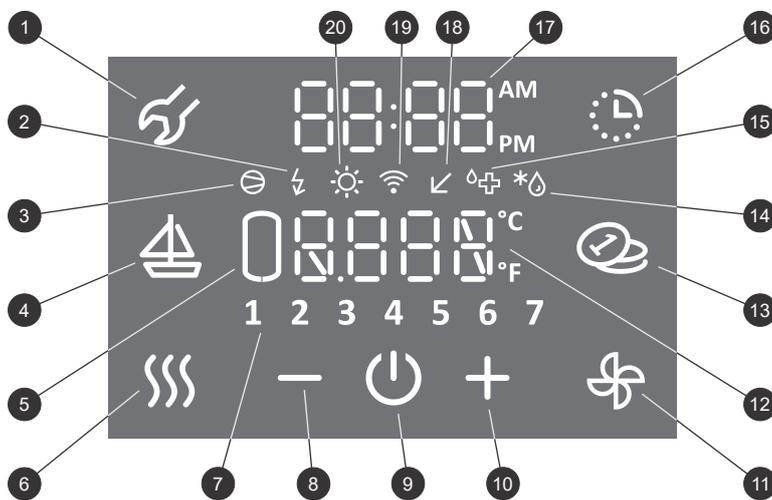

Fig. 9: Control display
After the heat pump is connected to the heat exchanger of the hot water tank, the water and power supply network, and to the water-filled tank, it is ready to be operated. The heat pump can be operated using an LCD touch screen (Figure 9). Features and displays depend on the models.
- After 1 minute of inactivity (no pressing on the display) the display always reverts to saving mode. The saving mode shows the current water temperature and, depending on the model, the symbols of features currently in progress (see Figure 9).